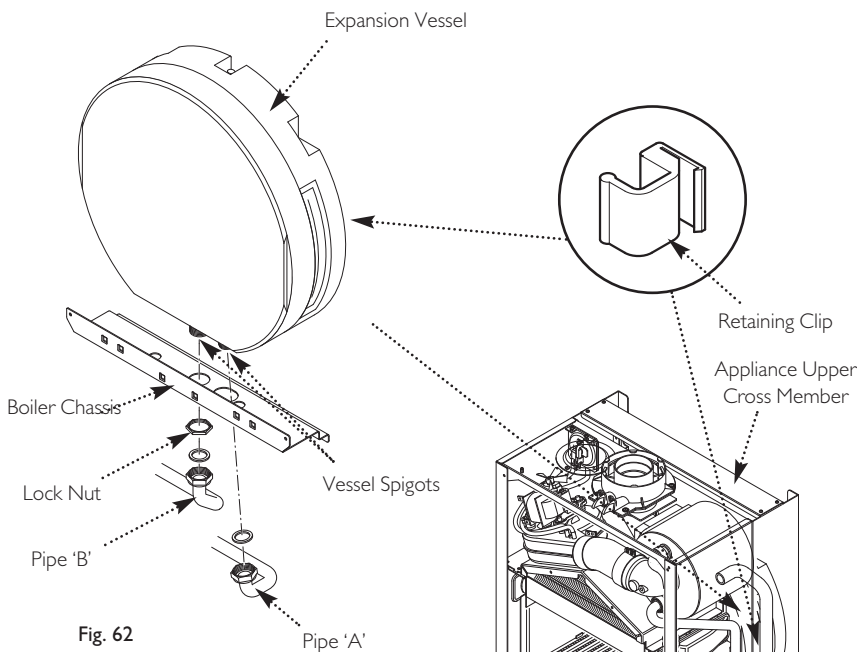

Fig. 62
12.16 Expansion Vessel & Pre-Heat Store (Fig. 62)